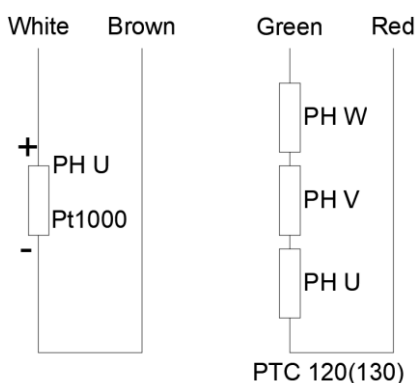
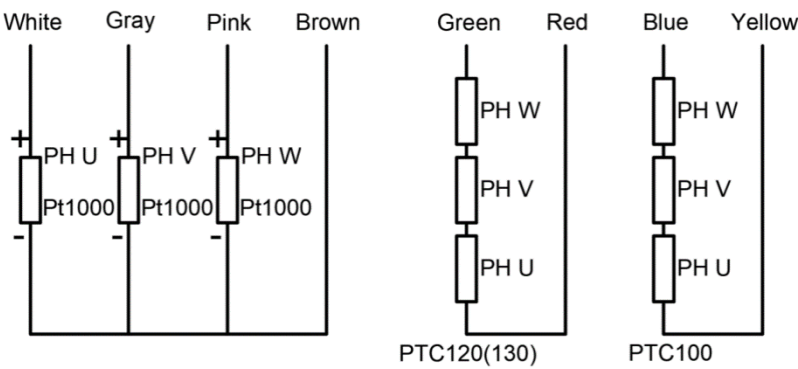

Figure 5.2.2 Type A
Figure 5.2.5 Type D
IGUS®'s Chainflex® (CF240) is used for temperature sensor cable. There are three temperature sensors in standard specification (Type B), a set of PTC100, a set of PTC120(130) is installed on every phase winding, and a Pt1000 is installed on phase U in standard. Temperature sensors used in each Type are given in Table 5.2.3. The cross-sectional area of temperature sensor cable is 0.25 mm², and the pin assignment of temperature sensor cable for each type is given from Figure 5.2.2 to Figure 5.2.5.